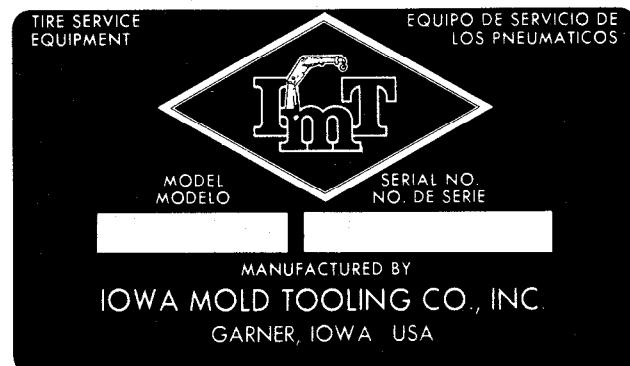

Figure D-1. Serial Number Placard
Every crane has an identification placard (Figure D-1) attached to the mast. When ordering parts, communicating warranty information or referring to the unit in correspondence, always include the assigned serial and model numbers. All inquiries should be addressed to Iowa Mold Tooling Company, Inc.; 500 Highway 18 West; Garner, Iowa 50438, telephone: (515) 923-3711 or TWX 910-523-6930. In Canada: Red Top Equipment, Ltd.; Orillia, Ontario; telephone: (705) 325-7458.